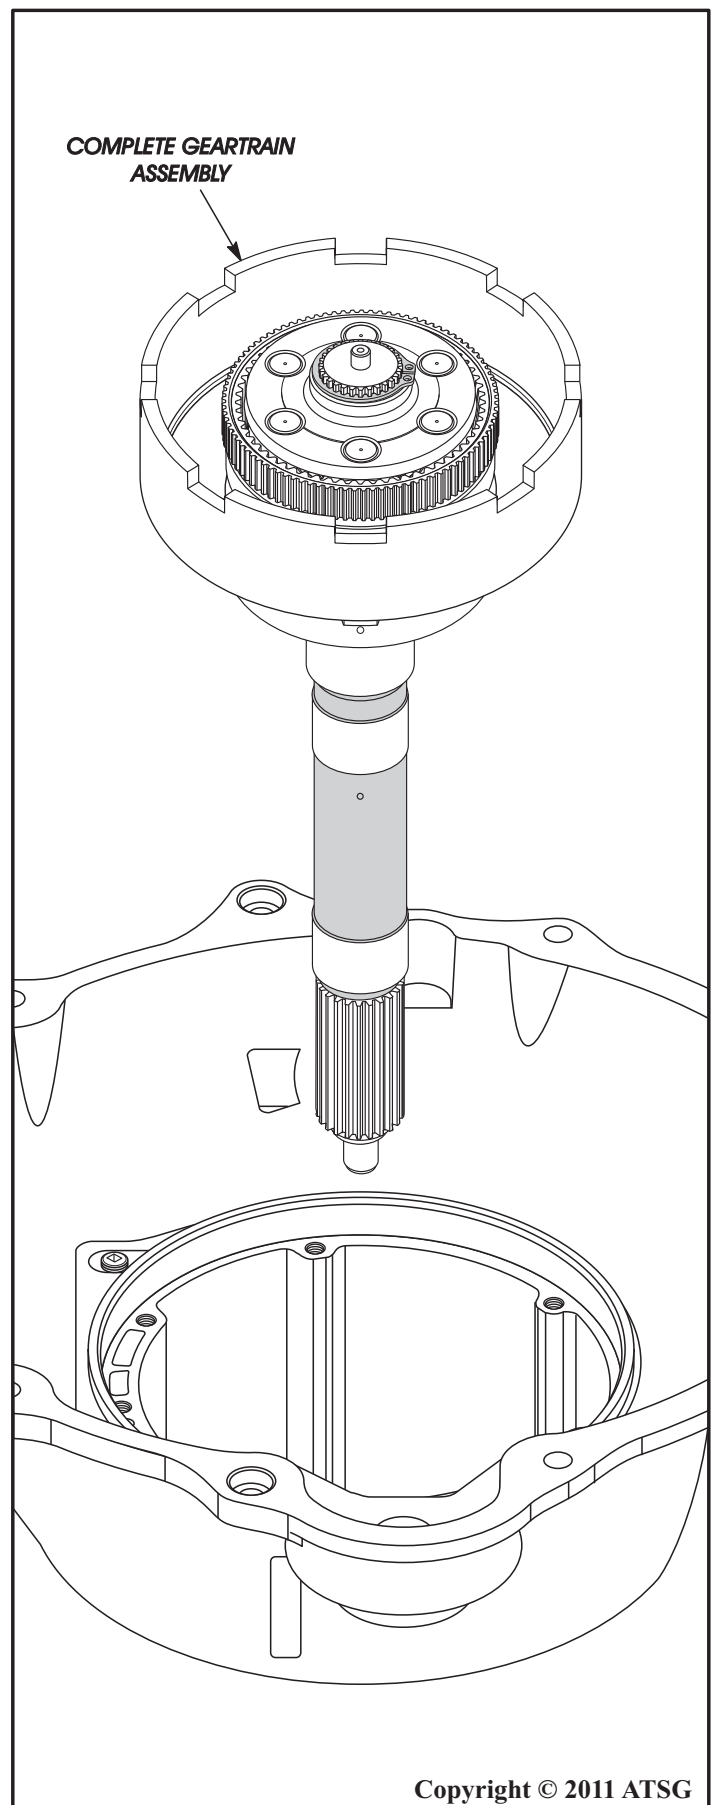

Figure 81
45. Remove the complete geartrain from the case as an assembly, as shown in Figure 81.